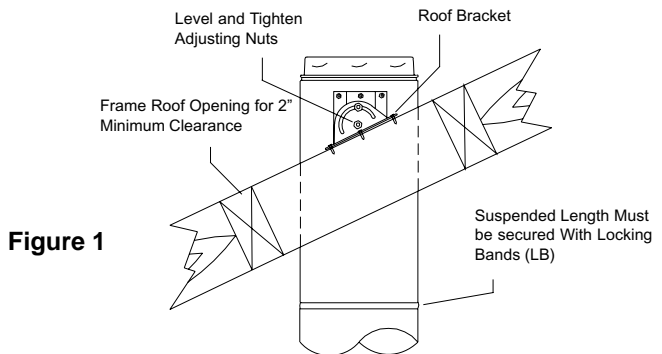

Figure 1
1. Cut an opening in the roof and frame a rectangular roof opening to provide a 50mm (2") minimum clearance from combustibles (see Figures 1 through 3).
3. Determine the chimney plate position on the chimney casing (see Figure 1).
4. Install two (2) carriage bolt per chimney plate in square holes.